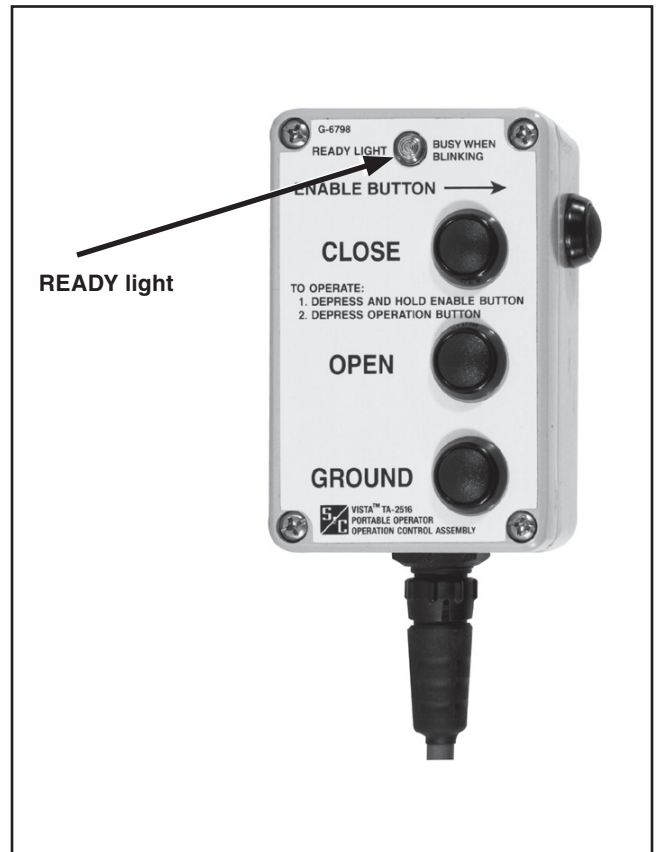

Figure 11. The READY light on the remote control.
**STEP 8.** Check that the READY light is lit on the remote control. See Figure 11. It will remain continuously lit while control voltage is supplied to the operator. If the READY light is not lit or is blinking rapidly, refer to the “Troubleshooting” section on page 15.